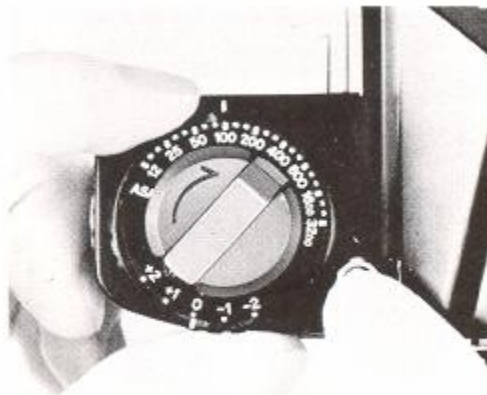
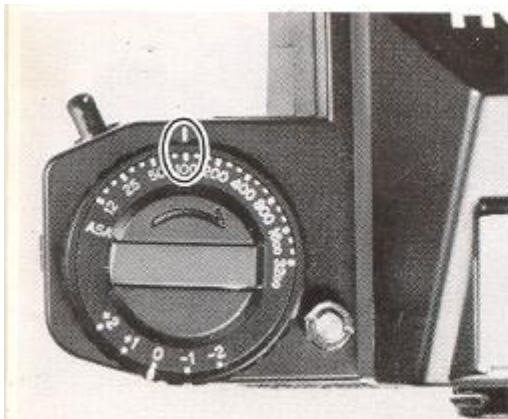

Fig. 10
Fig. 11
1. Depress Film Speed Lock Button (4) (Fig. 10) and rotate Film Speed Dial (3) until the ASA number of your film is exactly opposite the index line and click stops. For example, if the film is ASA 100, make the correct setting at "100" (Fig. 11).